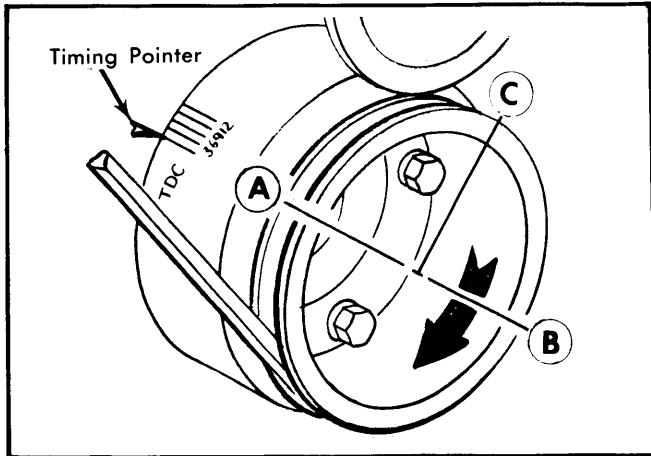

Fig. 8 Crankshaft Positions for Adjusting Hydraulic Valve Lifters
302" Engine - 1) With No. 1 piston on TDC at end of compression stroke (position A in Fig. 8), set valve clearance
2) Rotate crankshaft to position B (see Fig. 8) by rotating crankshaft 180° clockwise from the TDC position. Set clearance on the following valves: No. 5 intake, No. 2 exhaust, No. 4 intake, No. 6 exhaust.
3) Rotate crankshaft to position C (see Fig. 8) by rotating crankshaft 270° clockwise from position B. Set clearance on the following valves: No. 2 intake, No. 7 exhaust, No. 3 intake, No. 3 exhaust, No. 6 intake, No. 8 exhaust
351"-W Engine - 1) With No. 1 piston on TDC at end of compression stroke (position A in Fig. 8), set valve clearance on the following valves: No. 1 intake, No. 1 exhaust, No. 4 intake, No. 3 exhaust, No. 8 intake, No. 7 exhaust.
2) Rotate crankshaft to position B (see Fig. 8) by rotating crankshaft 180° clockwise from the TDC position. Set clearance on the following valves: No. 3 intake, No. 2 exhaust, No. 7 intake, No. 6 exhaust.
3) Rotate crankshaft to position C (see Fig. 8) by rotating crankshaft 270° clockwise from position B. Set clearance on the following valves: No. 2 intake, No. 4 exhaust, No. 5 intake, No. 5 exhaust, No. 6 intake, No. 8 exhaust.